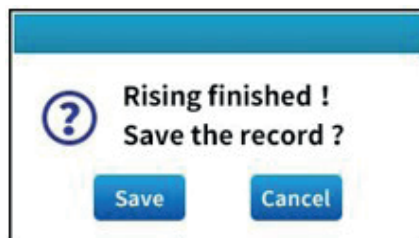

Fig. 4
9) When the instrument detects the final melting-point of the sample, it will beep and automatically return to the preset temperature. The screen prompts whether to save the measurement results, as shown in Figure 4, the user can choose to save or abandon the measurement values.